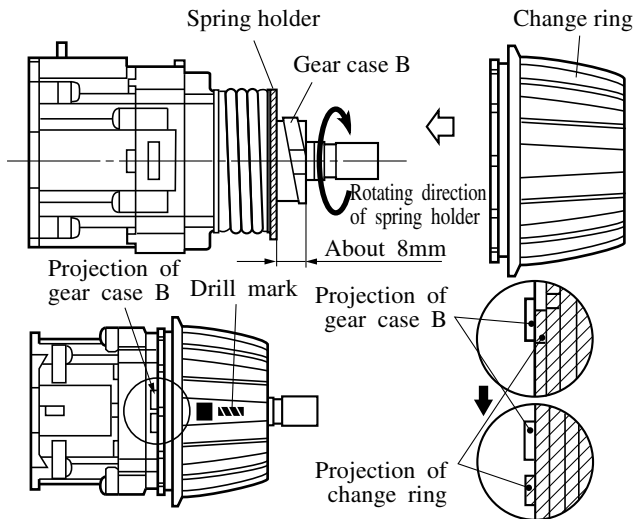

Figure 6
1) Turn spring holder to the direction as shown in figure 6 a) and fasten it tightly.
2) Mount change ring so that the drill mark should come right above (figure 6 b)).
- When the projections of gear B and change ring contact, turn change ring so that the drill mark will be the lower position as shown in the figure 6 c).
(7) Mounting of gear assembly to the housing